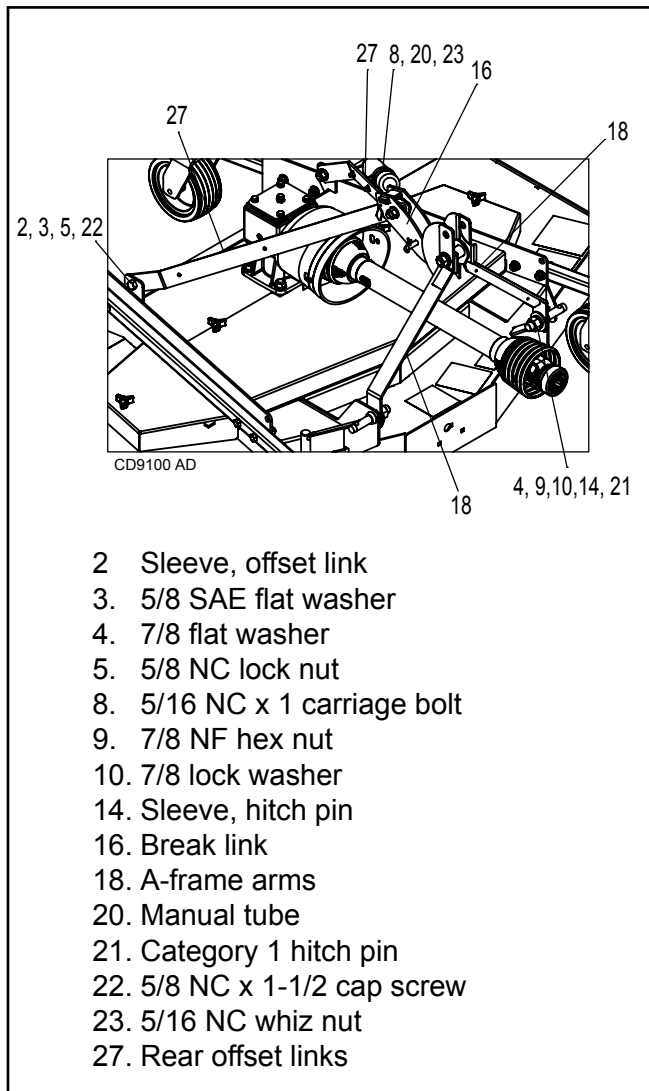

Figure 32. Hitch Assembly
Hitch Assembly (Figure 32 & 33)
2. Loosely assemble the a-frame arms (18) to the hitch plates using hitch pins (21), bushings (14), flat washers (4), lock washers (10), and 7/8 NF hex nuts (9). Torque hex nuts down onto bushings (14). See Figure 32.
3. Loosely assemble squared end of the rear offset links (27) to the lugs on the gearbox stand. Use the 5/8 cap screws (22), bushings (2), flat washers (3), and 5/8 lock nuts (5). Torque hex nuts down onto bushings. See Figure 32.